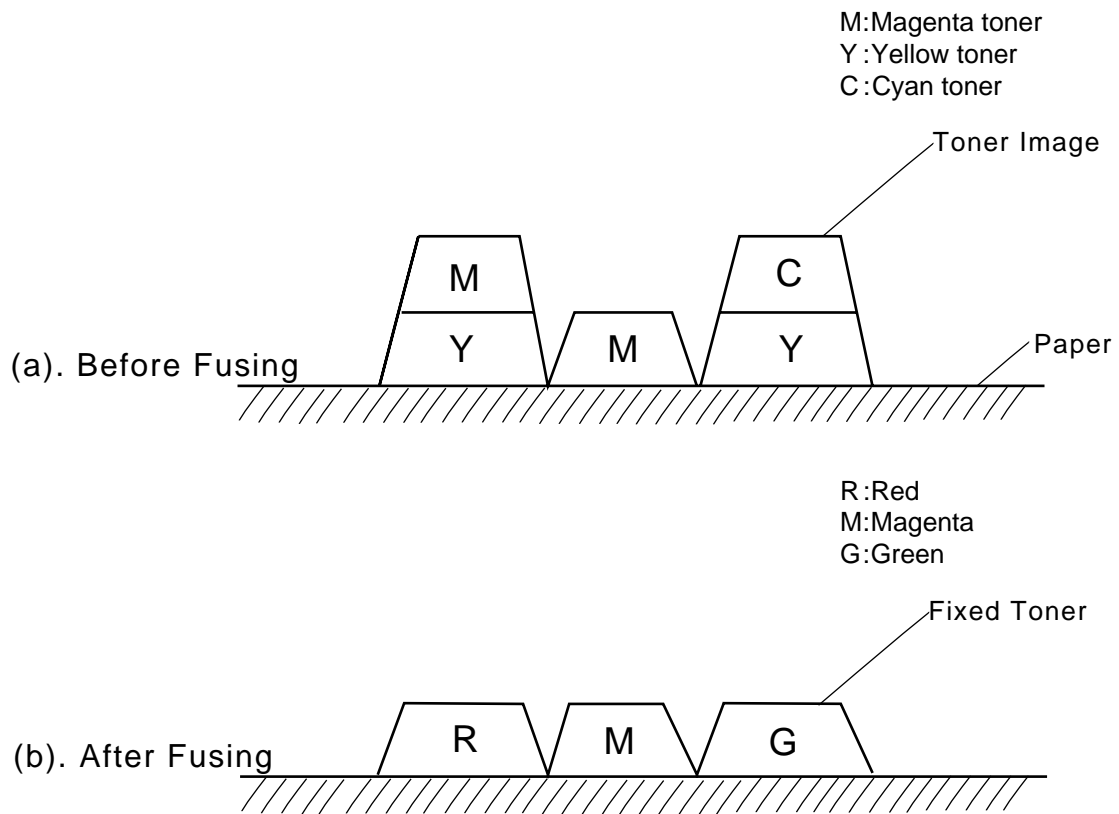

Fig.4-26
(2) Process of Fusing (Refer to Fig.4-26.)
- ① The toner image that has been transferred onto the paper is simply adhered on the paper but not fused yet.
- ② Transported paper passes between the heater roller and back-up roller.
- ③ Each roller is heated up to approx. 150°C, and received approx.200N from the opposite heat roller.
- ④ When the paper carrying the toner images passes between the tow heat rollers, the toner images are melted and fused on the transported paper.
- ⑤ The paper carrying the fused image is separated from the heat rollers, and ejected from the printer.